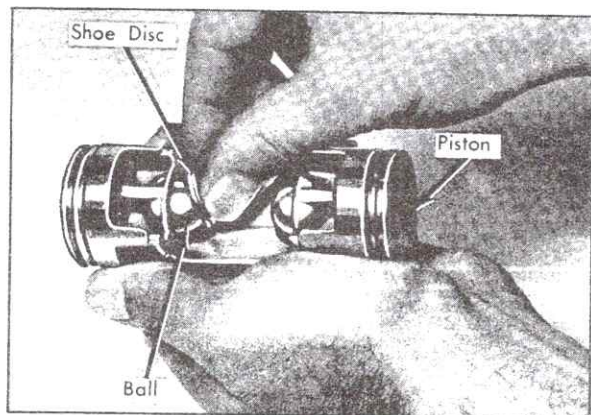

Fig. 1-56 Installing Shoe Disc
7. Lubricate cavity of a zero shoe disc with refrigeration oil and place shoe disc over ball in front end of piston, Fig. 1-56. Front end of piston has an identifying notch in casting web.